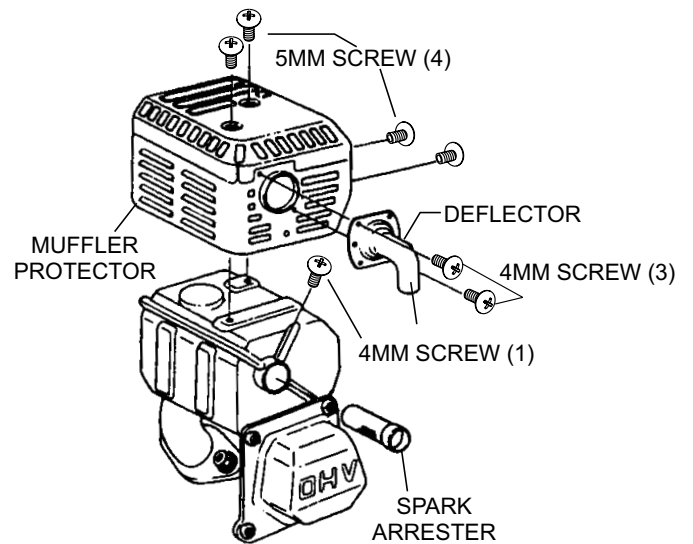

Figure 28. Spark Arrester Removal
- Remove the 4 mm screw (3) from the exhaust deflector, then remove the deflector. See (Figure 28).
- Remove the 5 mm screw (4) from the muffler protector, then remove the muffler protector.